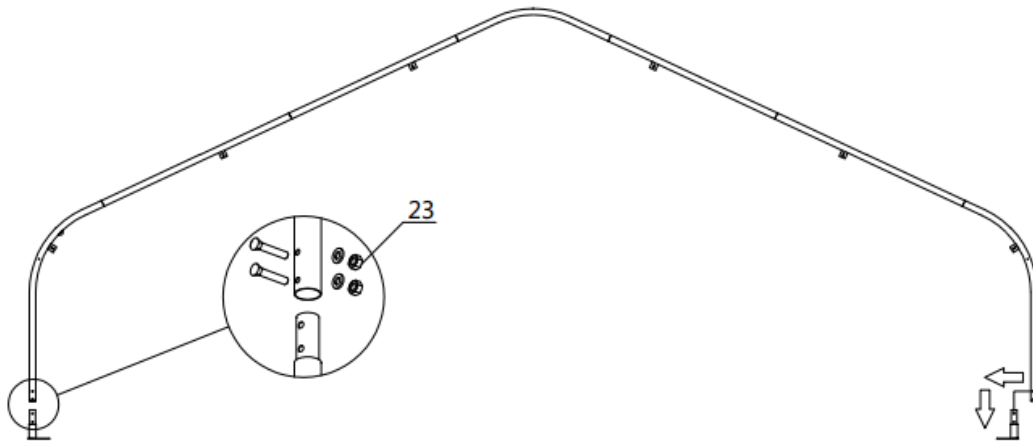

Figure 5
Step 3 : Put up all trusses (refer to figure 5)
- (4) Self locking bolt (#23)